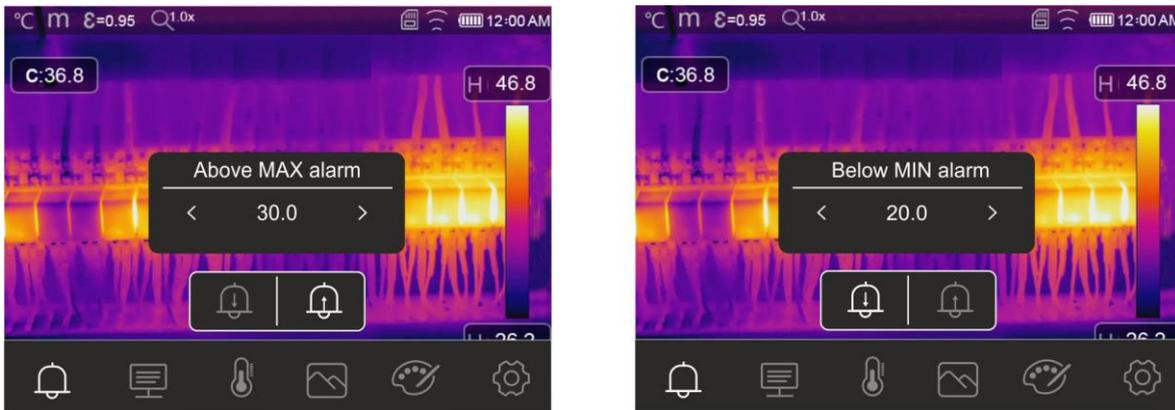

Fig. 45: Setting of limit thresholds on alarms
3. Touch the icon “🔔” to define the **high** threshold value associated with the alarm. The screen in Fig. 45 – left side appears on the display.
5. Touch the icon “🔔” to define the **low** threshold value associated with the alarm. The screen in Fig. 45 – right side appears on the display.